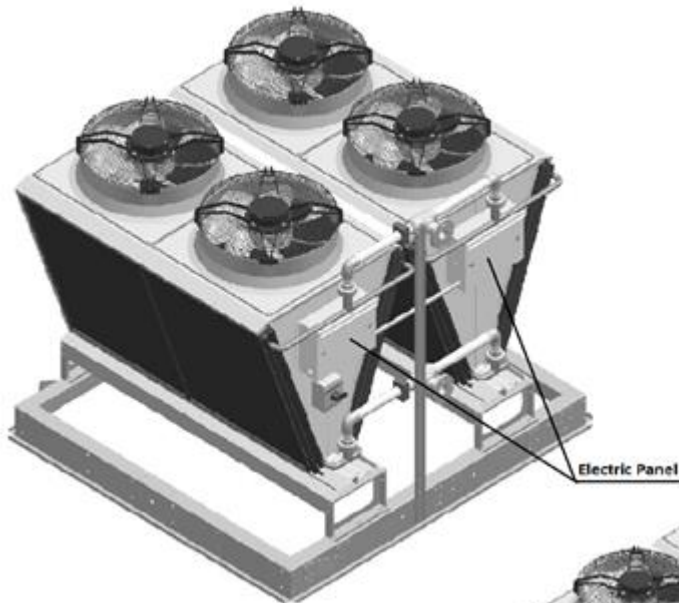

Fig. 1
- Fluid Cooler NG-V-22 (Fig.1) composed of two such blocks etc. The largest single fluid cooler, NG-V-62 (Fig.3) composed of six such blocks.